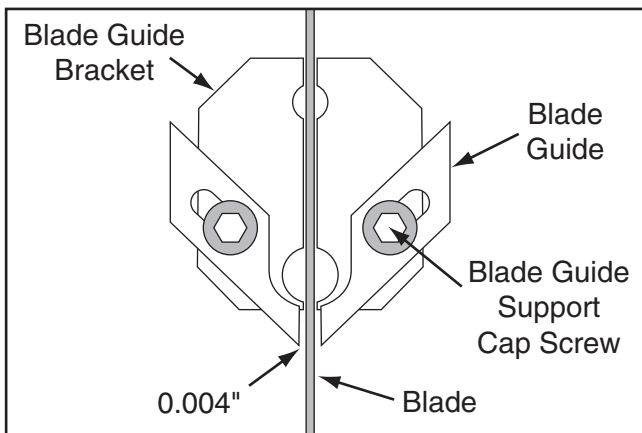

Figure 31. Example of blade guides adjusted 0.004" away from the blade sides.
6. Loosen the blade guide support cap screws (see **Figure 31**).